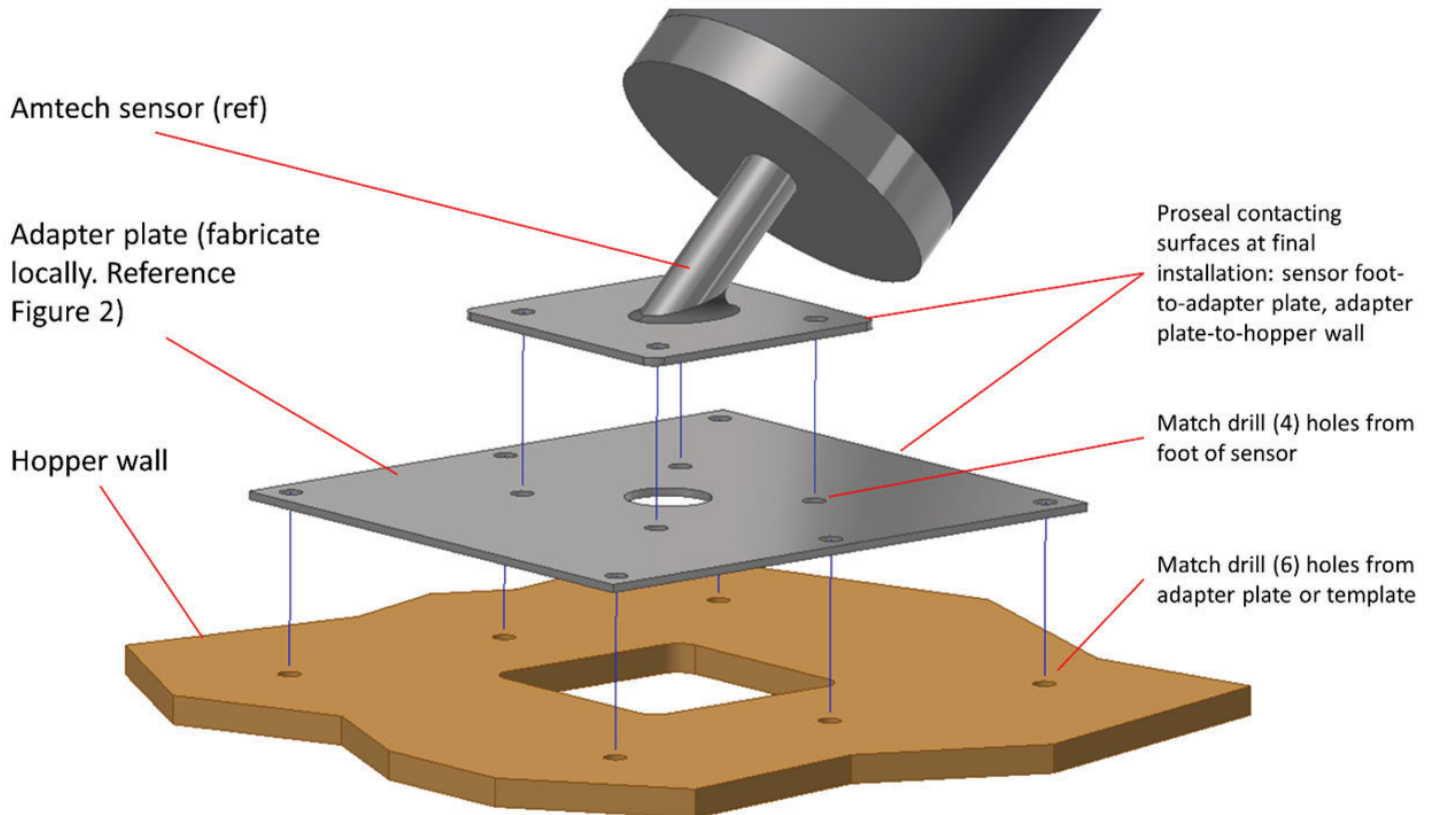

Figure 5 - Adapter Plate Installation
- a. Match drill the 4 holes for mounting the Amtech sensor into the adapter plate. Reference Figure 5.
- b. Match drill the 6 outer holes from the adapter plate into bottom/back wall of the hopper. Reference Figure 5.
5. Install Adapter Plate and re-install Amtech sensor using proseal and new hardware. Reference Figure 5.